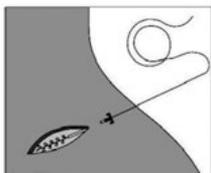

Figure 15
5. Insert the catheter through the opening of the introducer's T-handle to the wound site (See figure 15).